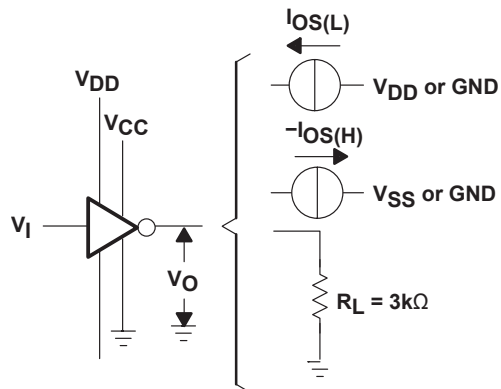

Figure 6-1. Driver Test Circuit for V_{OH} , V_{OL} , $I_{OS(H)}$, and $I_{OS(L)}$
| V_{OH} | High-level output voltage | $V_{IL} = 0.8V$, | $R_L = 3k\Omega$, | See Figure 6-1 | 6 | 7.5 | | V |
| V_{OL} | Low-level output voltage (see (1)) | $V_{IH} = 1.9V$, | $R_L = 3k\Omega$, | See Figure 6-1 | | -7.5 | -6 | V |
| $I_{OS(L)}$ | Low-level short-circuit output current | $V_{IH} = 2V$, | $V_O = 0$, | See Figure 6-1 | 4.5 | 12 | 19.5 | mA |